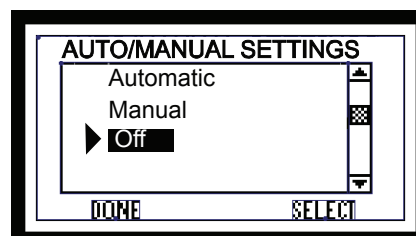

Figure 21.1
1. Set wall control to OFF on AUTOMATIC / MANUAL SETTING screen. **Figure 21.1.**
After servicing, restart with the AUTO/MANUAL SETTINGS screen. **Figure 21.1.**